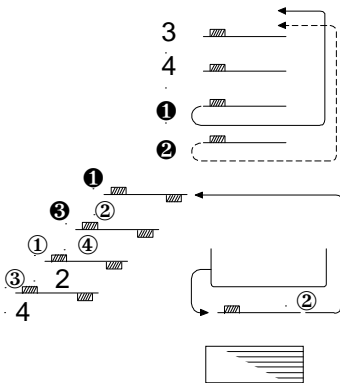

Fig 7
- 8) The 2nd original passes over the exposure glass. After this, the bottom copy in the duplex tray is fed in preparation for the reverse side copying [Fig 7].
- 9) The 1st original is scanned, the copy which has been in the stand-by position is fed for copying the 1st original and then fed out onto the copy tray [Fig 7].